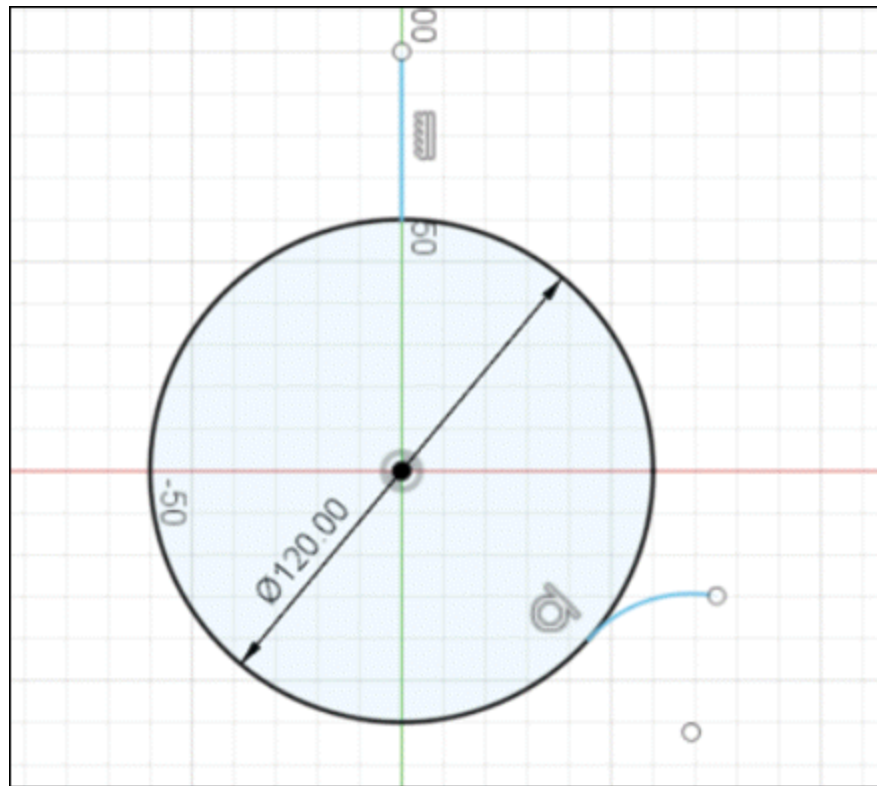

Figure-92. Circle arc and line created
- Draw a three point arc in the bottom area of the circle; refer to Figure-92. (It should look like the one given in figure. Accuracy is no required.)